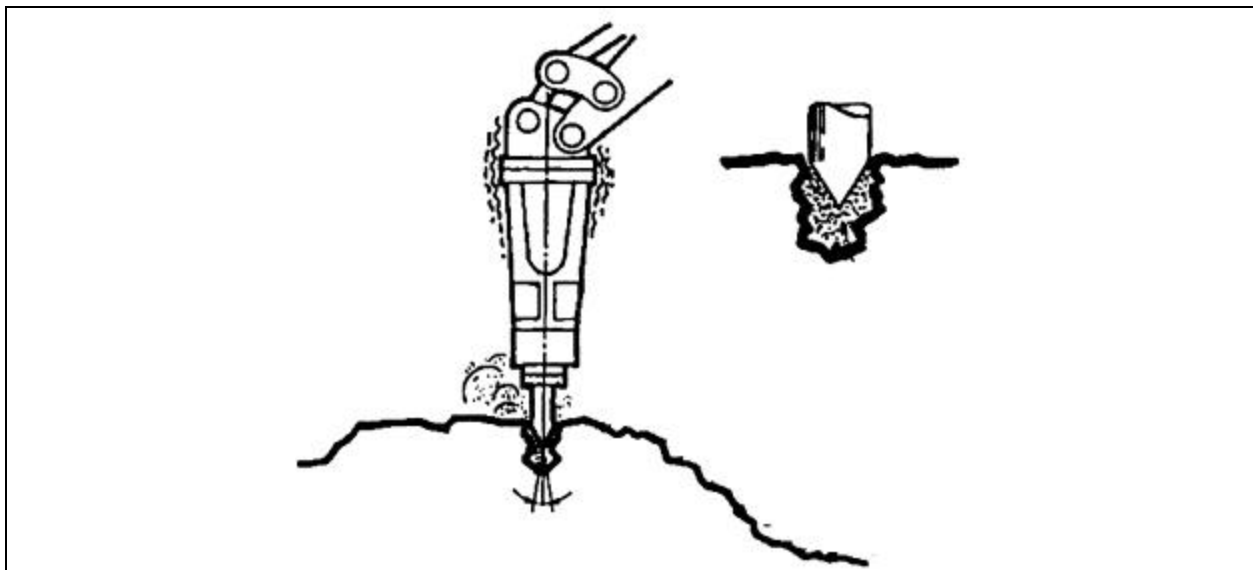

Figure 03-04: Dust Pockets May Cause Tools To Become Deformed
- g) A small pocket of rock dust can sometimes occur in the "well" formed by the tool. (Figure 03-04) The hammer impact may be released on this, therefore not breaking the rock. The tool will then overheat and may deform. The solutions to this are either to make another parallel hole nearby, or to carry out small movements of the hammer to disburse the rock dust. **Do not** continue in the same spot. This will waste the hydraulic power and damage the tool.